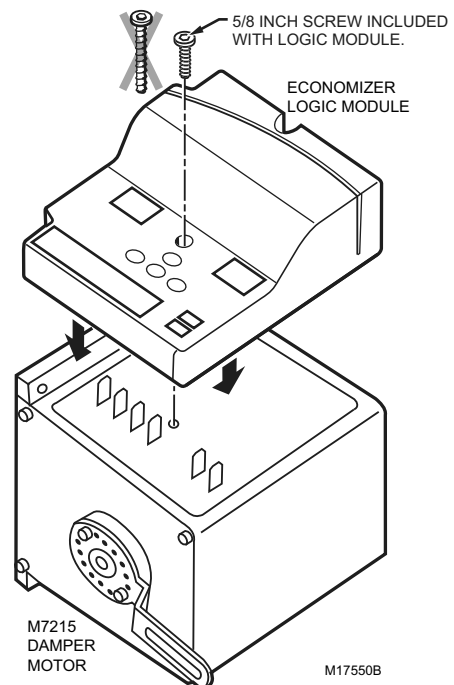

Fig. 2. Mounting Economizer Logic Module on Damper Motor.
2. Secure the W7340 or W7345 to the motor using the supplied mounting screw (See Fig. 2).